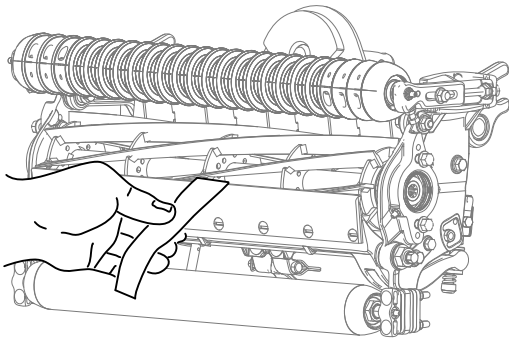

Figure 20
2. Test the cutting performance by inserting a long strip of cutting performance paper (Toro Part 125-5610) between reel and bedknife, perpendicular to the bedknife (Figure 20). Slowly rotate the reel forward; it should cut the paper.